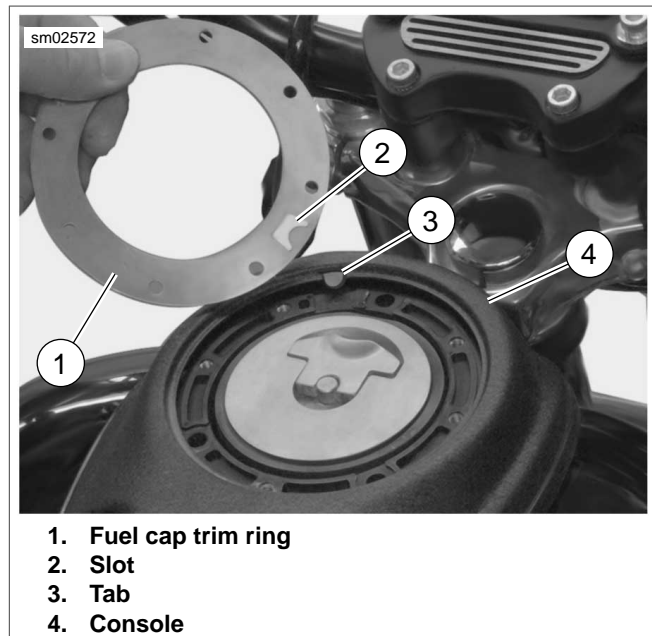

Figure 7-47. Fuel Cap Trim Ring: FXD
3. See Figure 7-47. In next step, be sure slot (2) of fuel cap trim ring (1) is installed over tab (3) of console (4).